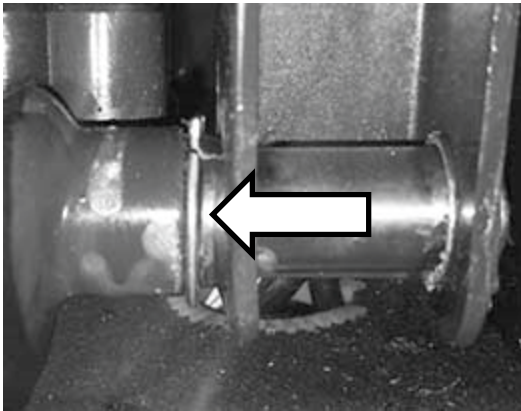

Figure 1B (DU Bearing Separation)
2. The DU bearings on the Knuckle Link arm have fallen out of the hole. Reference Figure 1B.